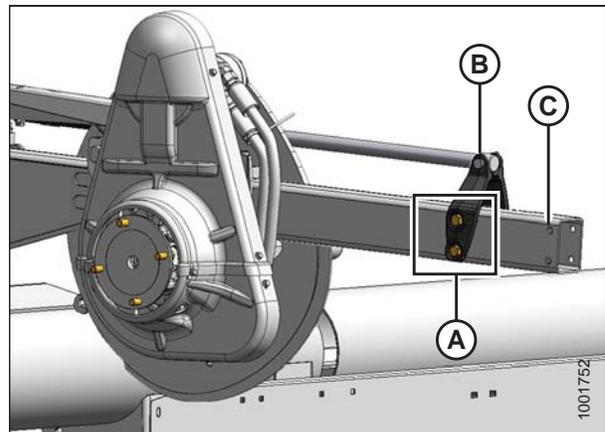

Figure 3.73: Rearward Position
- Rearward position, refer to Figure 3.73, page 84
5. Reinstall four bolts (A) to secure bracket (B) to reel arm at new position.